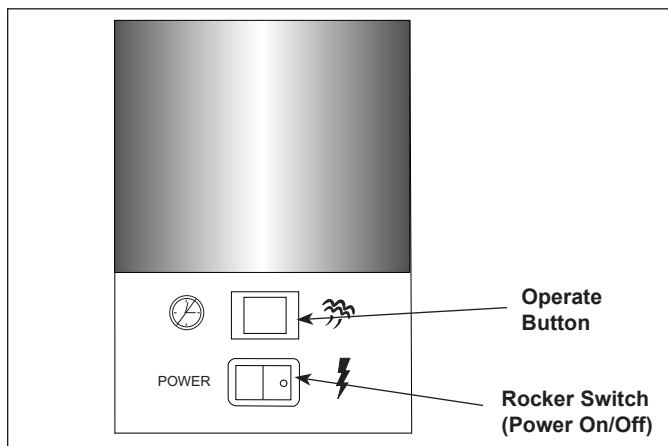

Figure 6. Operating Controls Non-Timer Models
1. Turn the Rocker Switch (power On/Off) to ON (Figure 6).